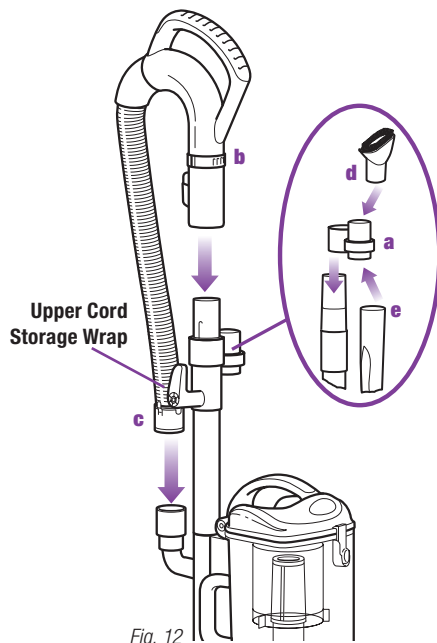

Fig. 12
- 4 Slide the accessory holder (a) positioned opposite the upper cord wrap, over the extension wand. Align the tab with the groove and push down. (Fig. 12)
- 5 Push the handle (b) onto the top of the extension wand until you hear it click into place. (Fig. 12)
- 6 Insert the end of the stretch hose (c) into the connector on the back of the Lift-Away® canister. (Fig. 12)
- 7 Store the dusting brush (d) and the crevice tool (e) on the mounts of the accessory holder. (Fig. 12)